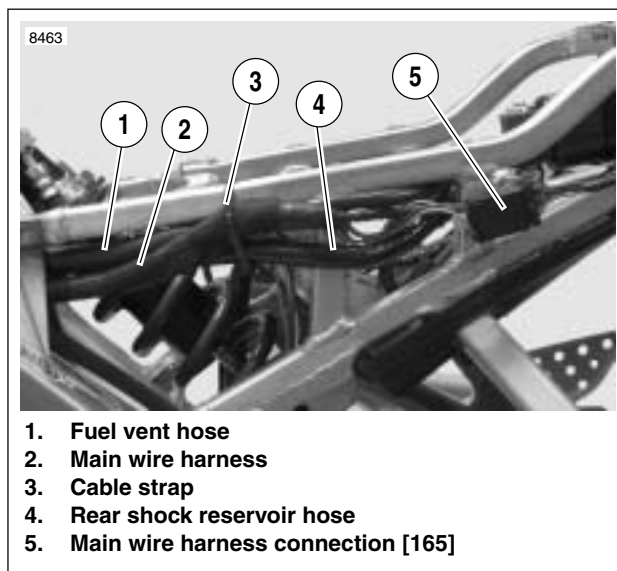

Figure 7-81. Left Side Subframe Hose and Wire Routing
6. See Figure 7-81. Separate exhaust actuator harness connector [165] (2) at main harness.